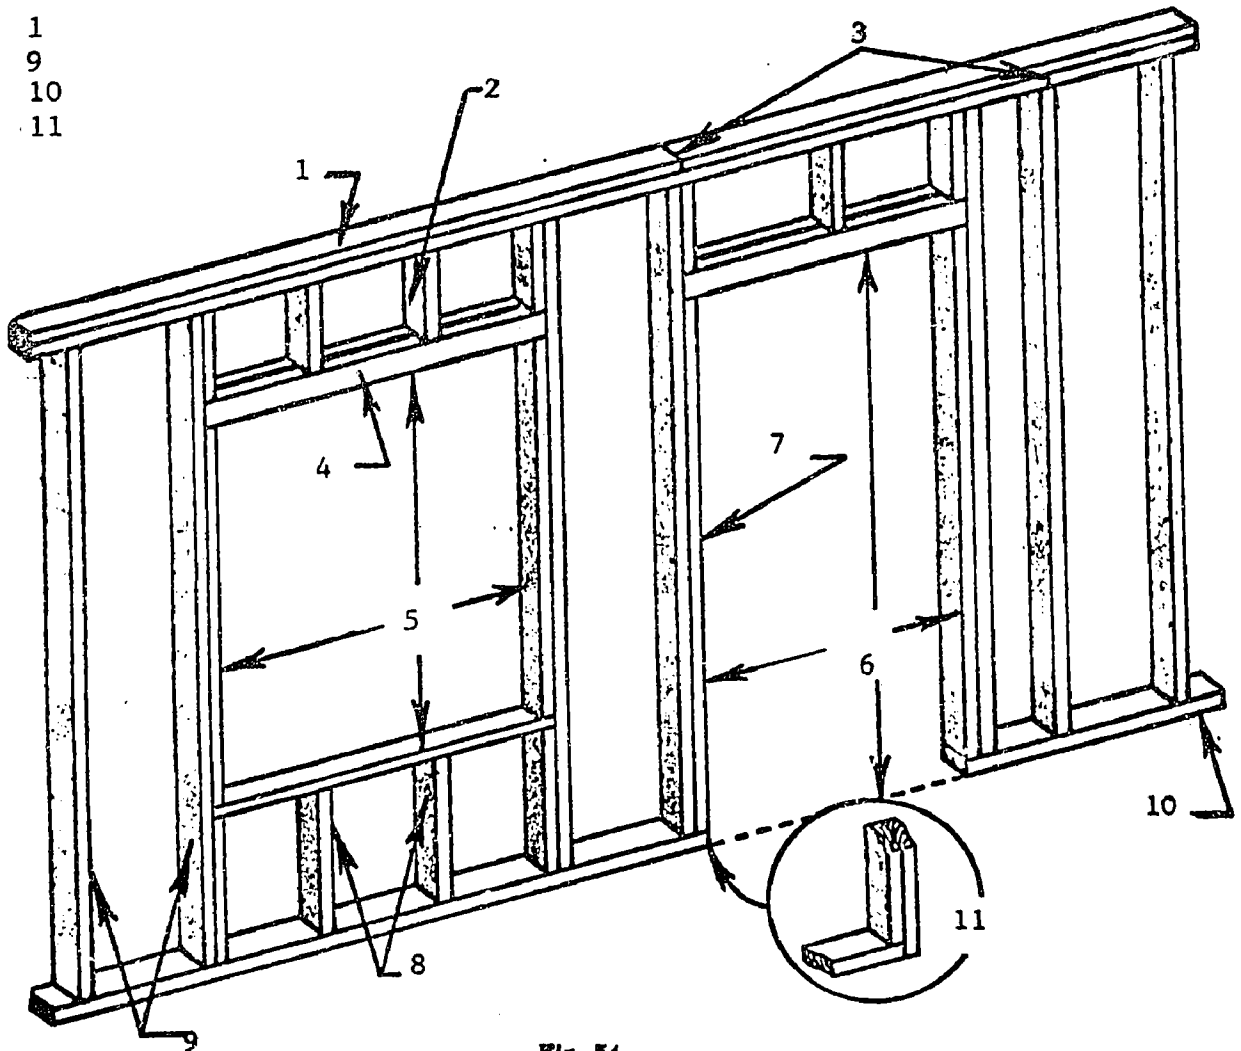

Fig. 54
Sketch meets the criteria listed in the resource material, Fig. 54 in Modern Carpentry.
1. In figure 54, which number would correspond to the cripple studs?
2. In figure 54, which number would correspond to the trimmer stud?
3. In figure 54, which number would correspond to the sole plate?
4. In figure 54, which number would correspond to the double header?
5. In figure 54, which number would correspond to the broken plate joints?
6. In figure 54, which number would correspond to the top double plate?
7. In figure 54, which number would correspond to the window rough opening?
8. In figure 54, which number would correspond to the door rough opening?